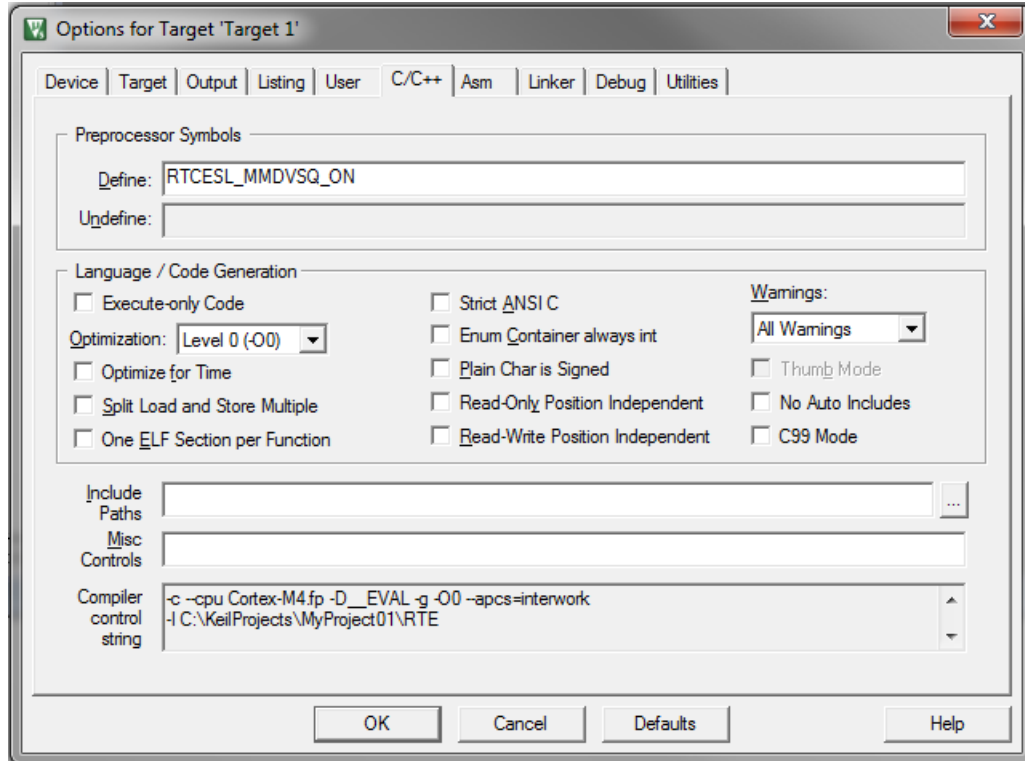

Figure 1-32. Preprocessor symbols
- Select the C/C++ tab. See Figure 1-32.